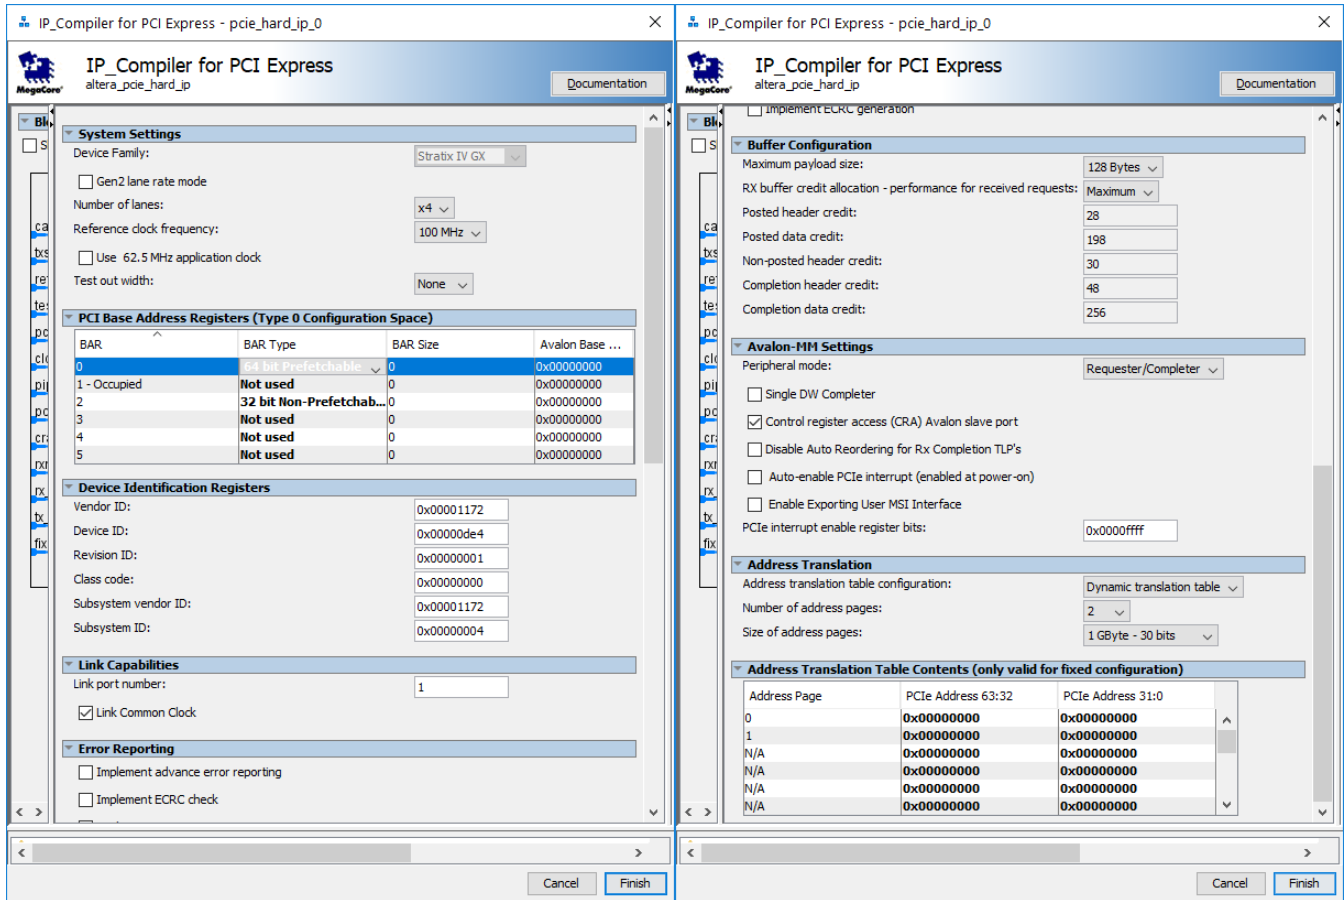

Figure 4. Settings for PCI Express IP Core.
- Click **Finish** to add the PCI Express IP Core *pcie_hard_ip_0* to the Platform Designer system. Figure 4 shows screenshots of the settings.